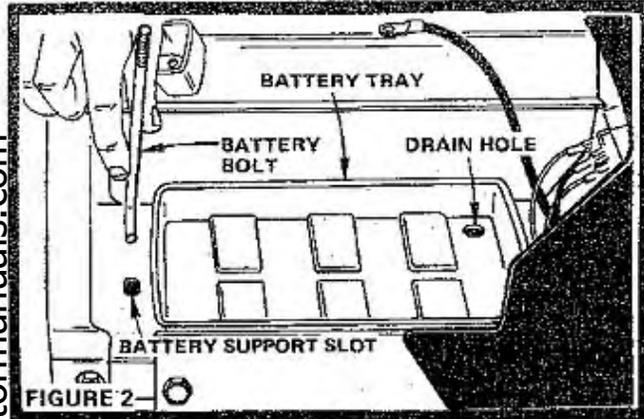

FIGURE 2
- a. Remove tape from plastic Battery Tray and move it slightly to the rear to hook one Battery Bolt into slot in the front of the Battery Support (Fig. 2). Return Battery Tray to original position (drain hole to rear).